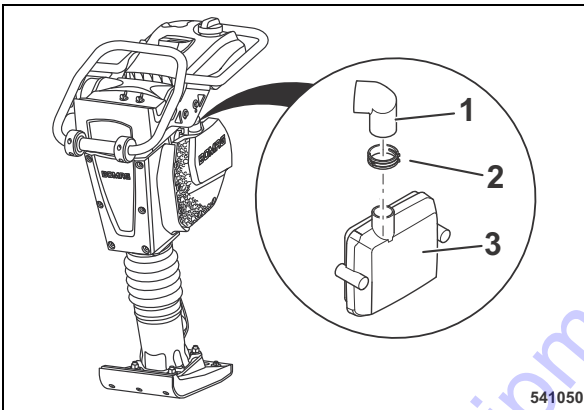

Fig. 58
- Connect the air guide hose (1) (Fig. 58) to the air filter housing (3) on the engine and tighten the hose clamp (2).